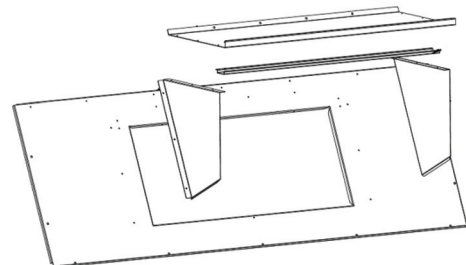

Fig. 21 — Barometric Hood Exploded View
3. Install parts as shown in the following exploded view. (See Fig. 21.) using the seal strip and screws provided in the parts box.